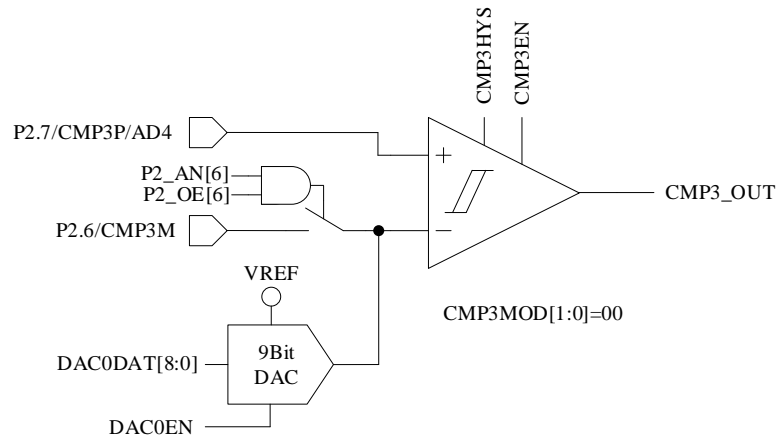

Figure 29-2 Single-comparator Input Mode (CMP\_CR1[CMP3MOD] = 00)
- When CMP\_CR1[CMP3MOD] = 00, CMP3 works in single-comparator input mode. The connection of input and output pins are shown in Figure 29-2.